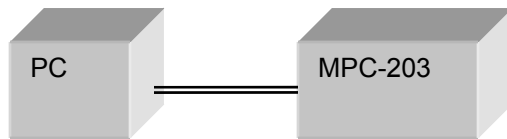

Figure 28 Direct connection: MPC-203 to PC
- a) Static IP: the administrator assigns the instrument a fixed IP address. In this mode the instrument can be directly connected to the control PC, as shown in Figure 28. For this configuration, a cross-linked network cable must be used.